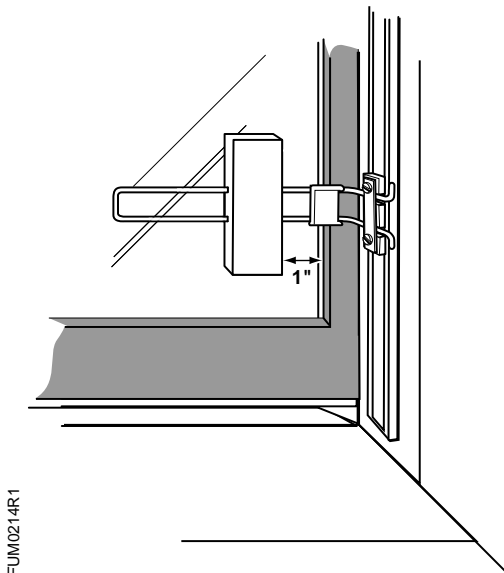

Figure 9. Location of Mounting Block.
1. To determine the linkage mounting block location, hold the free end of the linkage flat against the sash panel. Generally, the linkage should be mounted approximately 1 inch from the inside edge of the sash panel. See Figure 9.